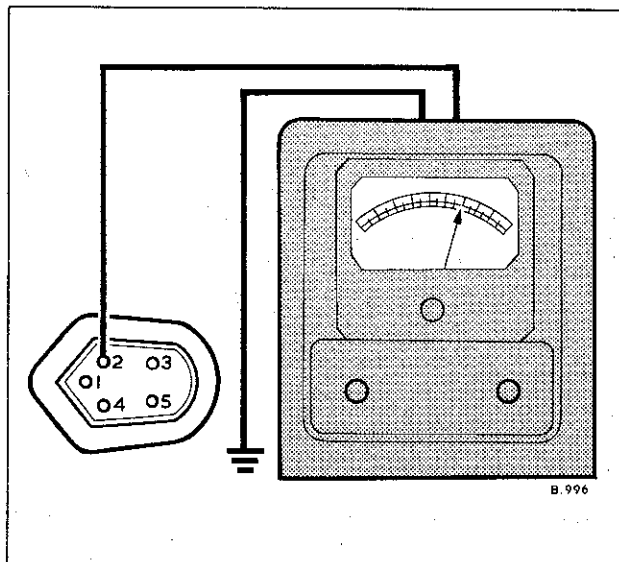

Fig. 7 Continuity check at cavity No. 2
**Cavity 2.** Connect the voltmeter positive lead to the connector cavity No. 2 (Fig.7).